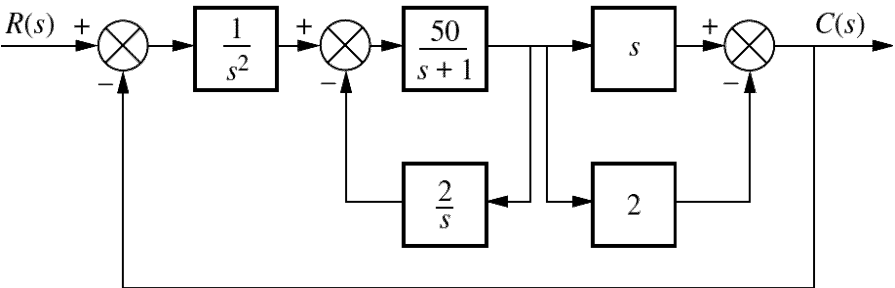

Figure 1
- Q.2** (a) From the block diagram in Figure 1, to obtain a transfer function $C(S) / R(S)$. **07**